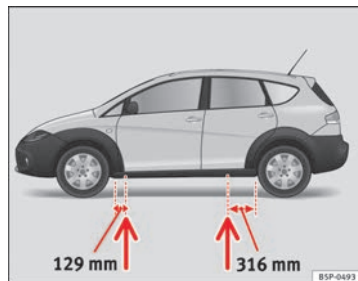

Fig. 172 Jack position points
- Locate the jacking point under the door sill closest to the wheel to be changed ⇒ fig. 172.
Recesses at the front and rear of the door sills mark the jacking points ⇒ fig. 172. There is only one jacking point for each wheel. Do not fit the jack anywhere else.